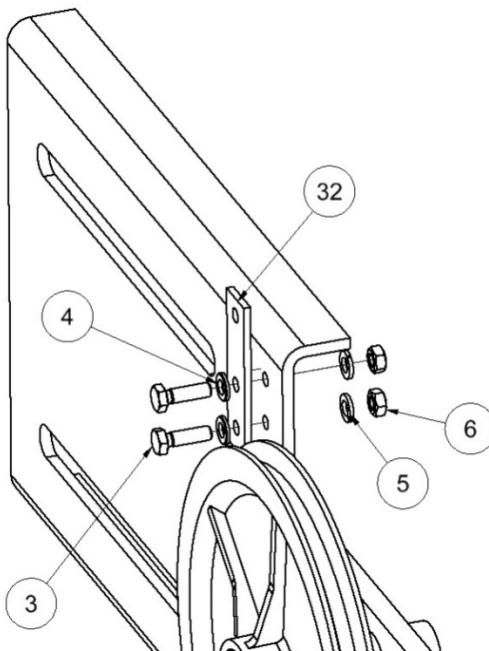

Figure 4
Attach the cover joint (32) to the guide block with two DIN 933 M6x20 screws (3), two DIN 125 M6 flat washers (4), two DIN 127 M6 spring washers (5) and two DIN 934 M6 nuts (6). *Figure 4*